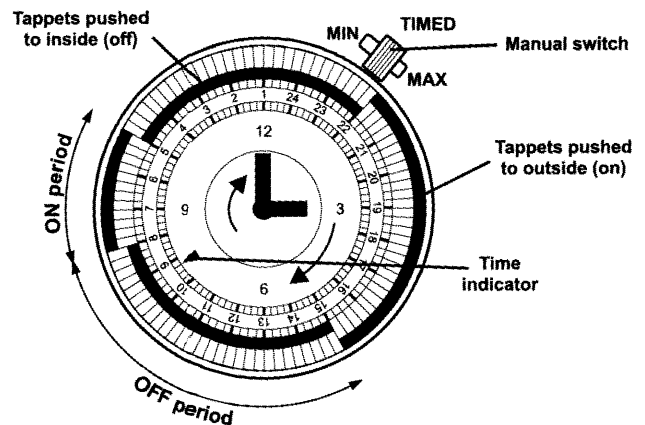

Fig. 6
Fig. 6 shows the clock set as follows:
**d. Manual Switch - see Fig. 6**